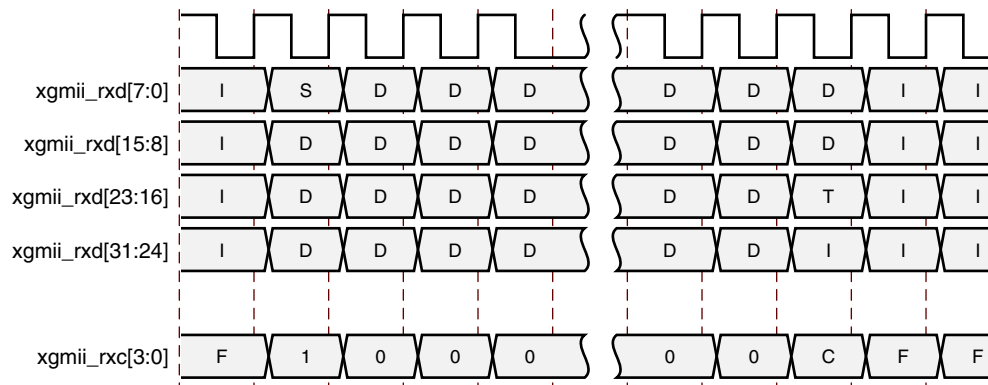

Figure 3-13: Frame Reception Across the 32-bit XGMII Interface
The timing of a normal inbound frame transfer is shown in Figure 3-13. As in the transmit case, the frame is delimited by a Start character (S) and by a Terminate character (T). The Start character in this implementation can only occur in lane 0. The Terminate character, T, can occur in any lane. The clock source for Figure 3-13 can be determined from Table 3-4.